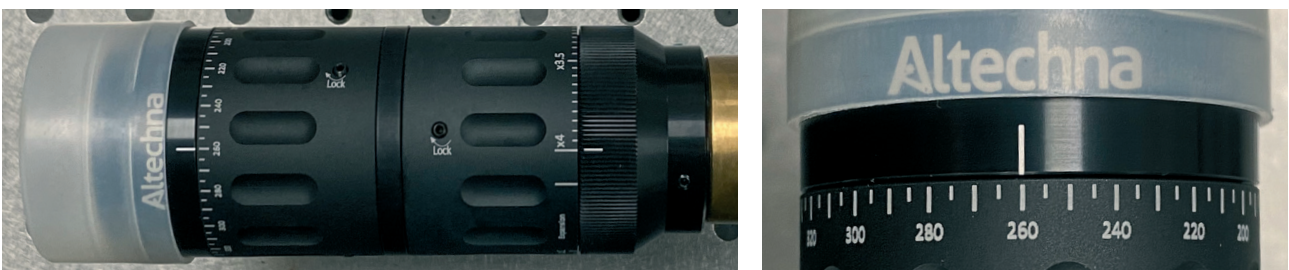

Figure 18. Setting expansion and focusing.
10. Set VBE expansion scale back to “**x4**” and focusing most counter-clockwise, it should correspond to ~260° mark on the scale (fig. 18):